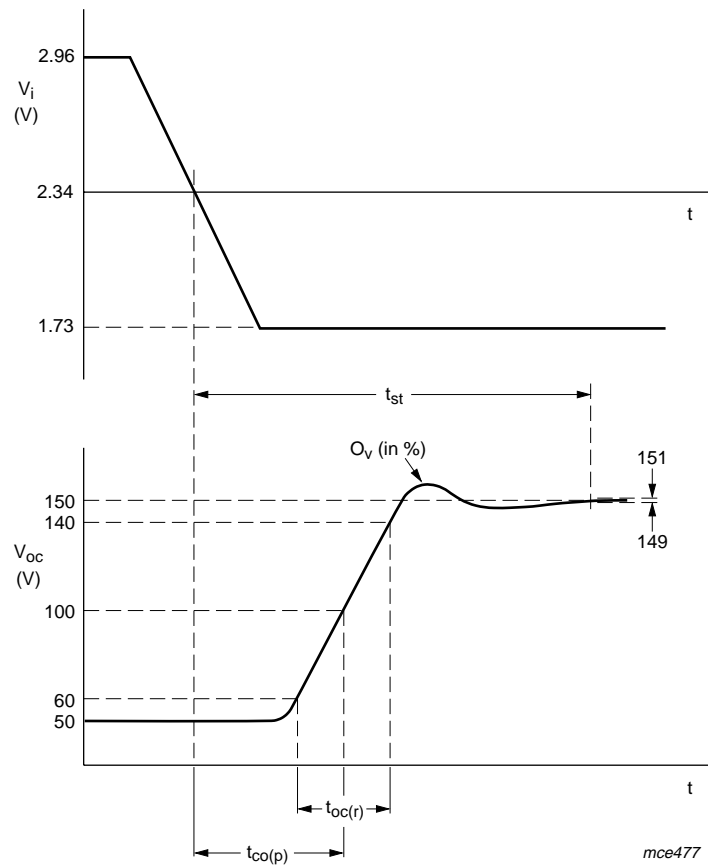
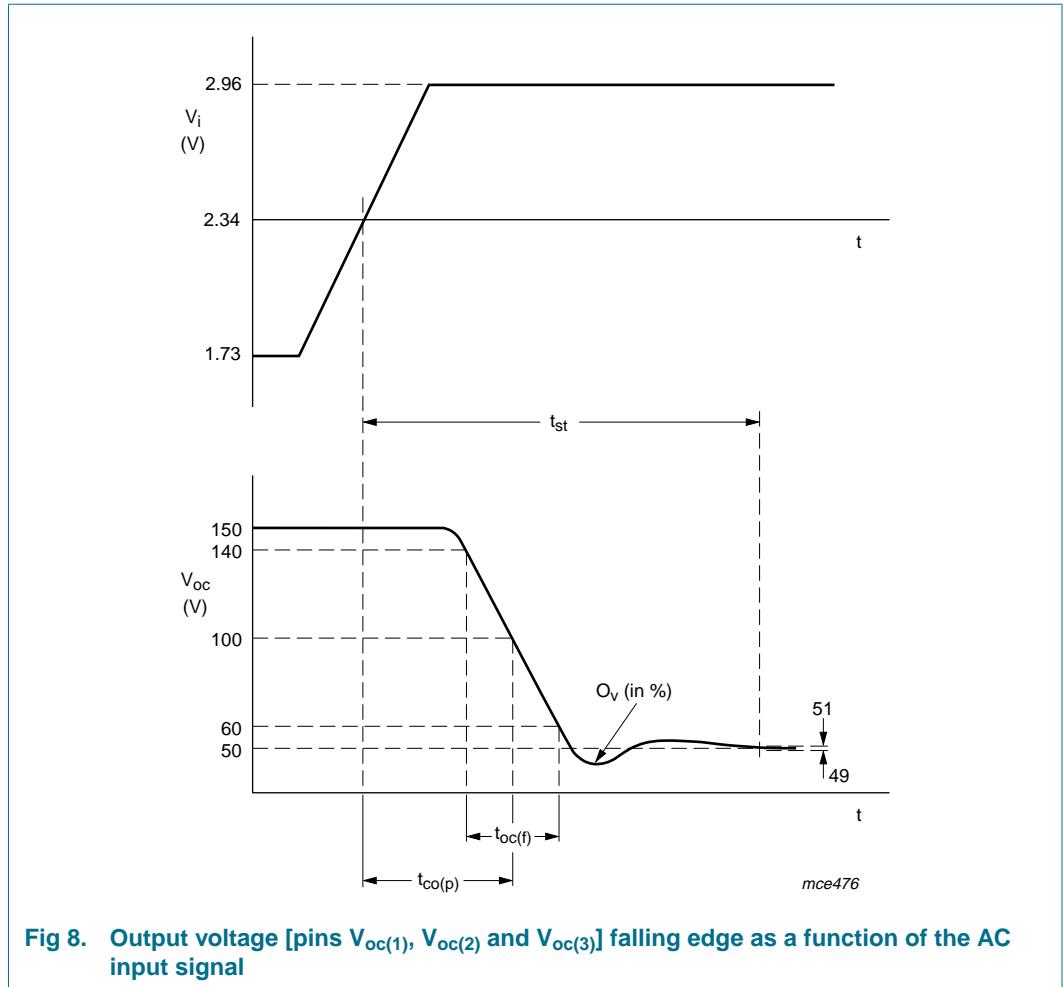

Fig 7. Output voltage [pins $V_{oc(1)}$, $V_{oc(2)}$ and $V_{oc(3)}$] rising edge as a function of the AC input signal
Fig 8. Output voltage [pins $V_{oc(1)}$, $V_{oc(2)}$ and $V_{oc(3)}$] falling edge as a function of the AC input signal
- [3] $f < 1\text{ MHz}$; $t_r = t_f = 40\text{ ns}$ [pins $V_{i(1)}$, $V_{i(2)}$ and $V_{i(3)}$]; see Figure 7 and Figure 8.